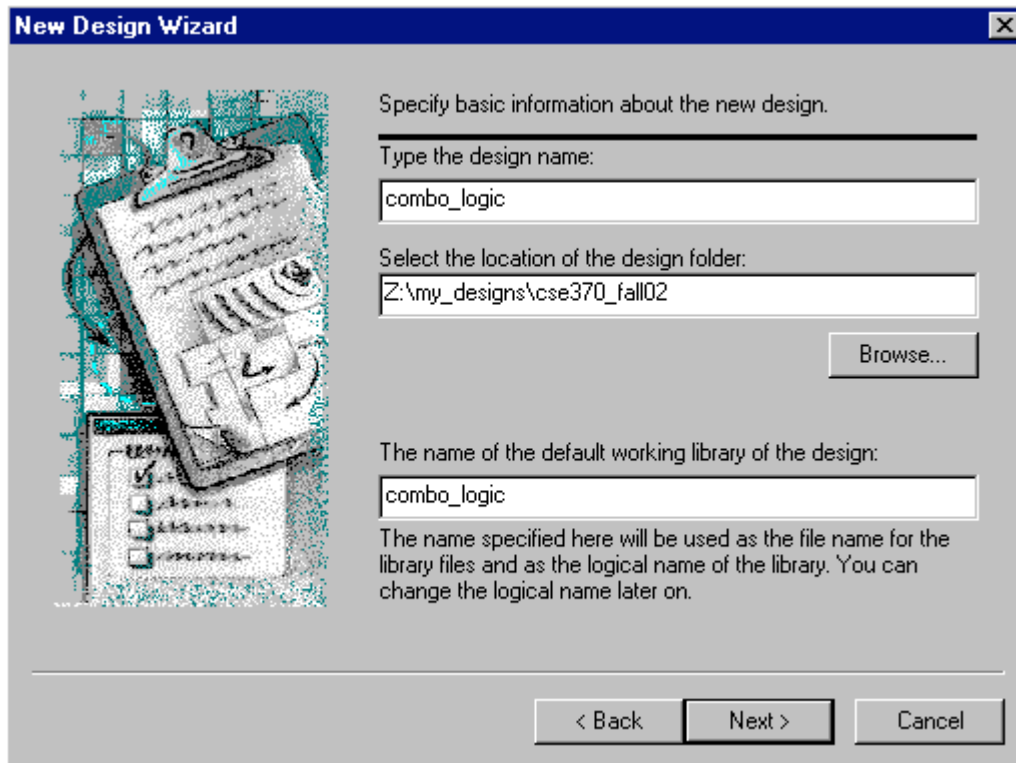

Figure 6
3. In the “Type the design name” field, type a name for your new design. **The name must contain only letters, numbers, and underscores (“_”), and cannot start with a number (i.e. 4bitadder is invalid, however four_bit_adder is valid).** Use **descriptive** names that do not match file names, other design names, or workspace names. By default, the design directory is under the workspace directory, and the name of the default working library of the design is the same as the design name. Leave these default values alone. **Warning: the directory path should not contain any spaces in it.** Your window should now look like Figure 6 with a MORE descriptive name than “combo_logic”.